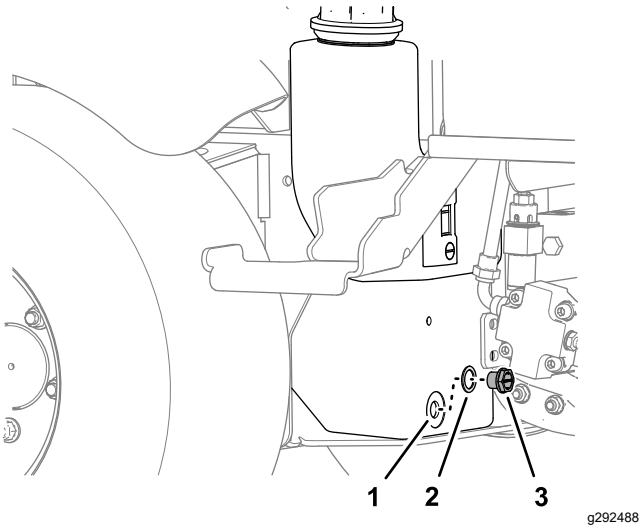

Figure 70
3. Align a drain pan under the hydraulic tank, remove the tank drain plug, and fully drain the hydraulic fluid (Figure 70).